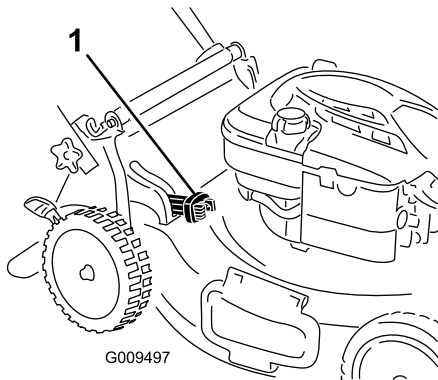

Figure 19
- For bagging the grass and leaf clippings, press the button on the bag-on-demand lever and move the lever forward until the button on the lever pops up (Figure 19).